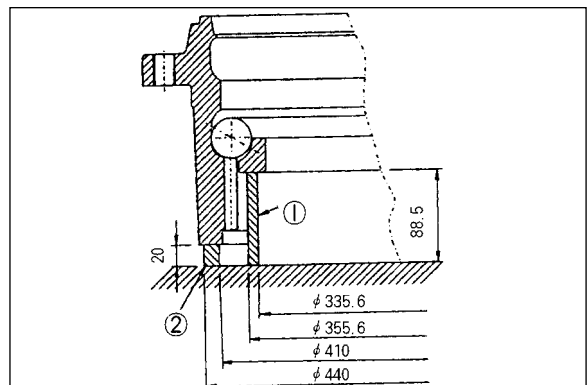

Figure 98
7. Install upper balls and upper housing. Figure 98.